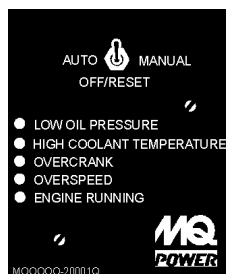

Figure 4. MPEC Module
11. **MPEC – Microprocessor Engine Control Module** – (MPEC) has a vertical row of status LED's (Figure 4), that when lit, indicate that a engine malfunction (fault), has been detected. When a fault has been detected the MPEC will evaluate the fault and all major faults will shutdown the generator.